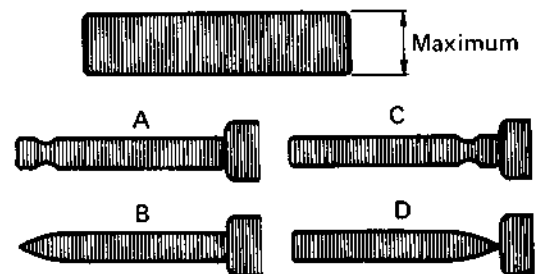
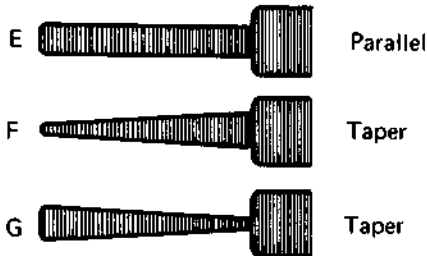

Fig. 5-40 Minimum FM output (incorrect examples)
Fig. 5-41 Minimum FM output (correct examples)
2. If the waveform becomes as shown by A or B of Fig. 5-40, carefully adjust the supply guide roller height so that the waveform becomes as shown by E, F or G of Fig. 5-41. At this time, if the waveform fluctuates, adjust to the point of minimum fluctuation.
3. If the FM waveform appears as shown by C and D in Fig. 5-40, carefully adjust the take-up guide roller height to obtain a waveform such as shown by E, F or G of Fig. 5-41.
4. Vary the Normal Tracking control from maximum to minimum FM output. Perform fine adjustment of supply and take-up guide rollers so that waveform variation becomes as shown by E,F and G of Fig. 5-41.
1. Check for maximum FM output waveform (Fig. 5-40), maximum audio out (Fig. 5-7) and absence of tape wrinkling or other transport irregularities, then secure the guide rollers. Perform in stop mode.